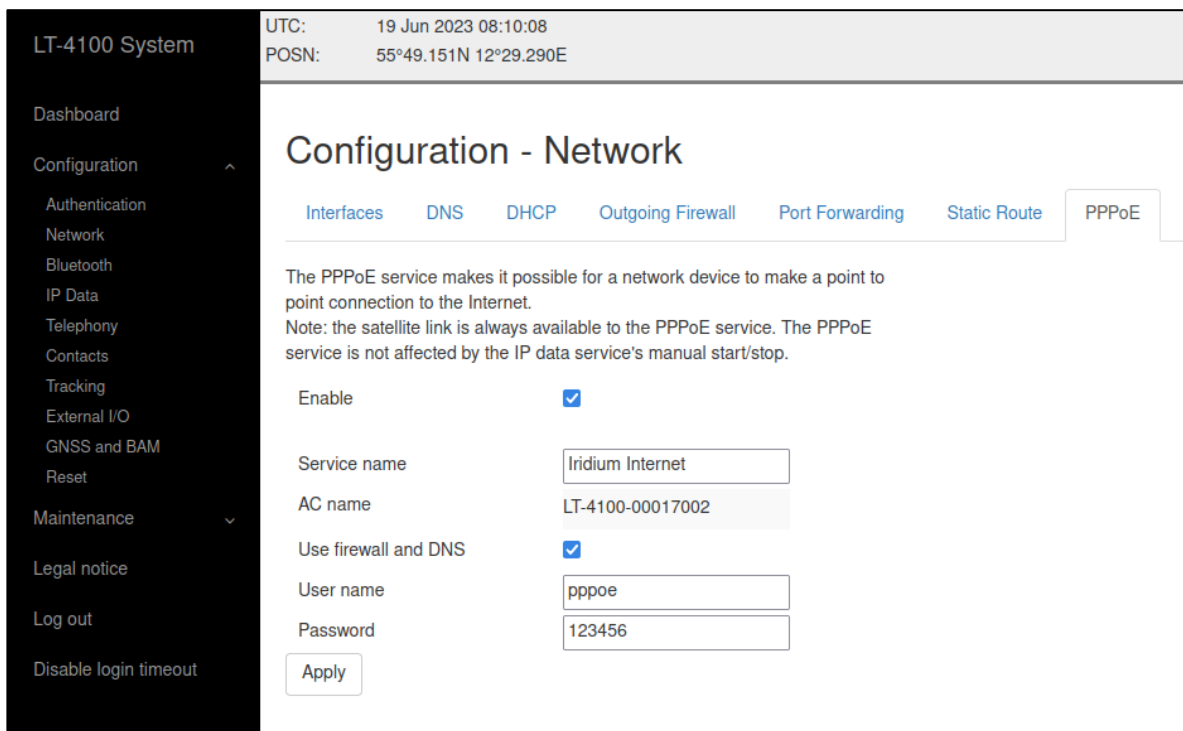

Figure 125: Web server – Network (PPPoE)
The PPPoE connection must be configured by setting up the Service name, Access Concentrator (AC) name, User name and Password. See Figure 125 for configuration.